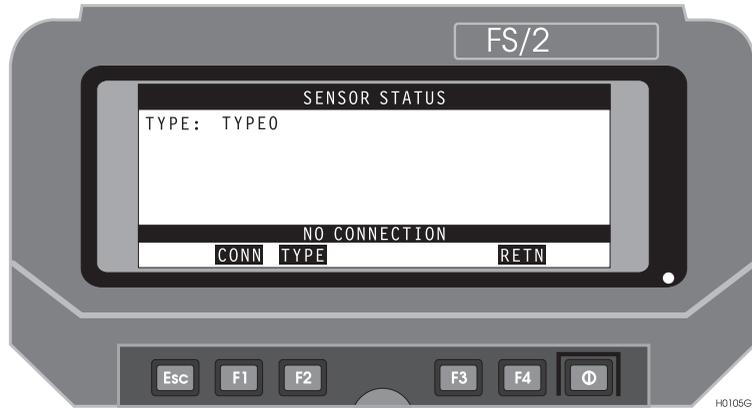

Figure 3.22: Sensor Status Screen
1. From the Feature Logging Screen, press **(Shift) F1 (SENS)** to call the Sensor Status screen, Figure 3.22.